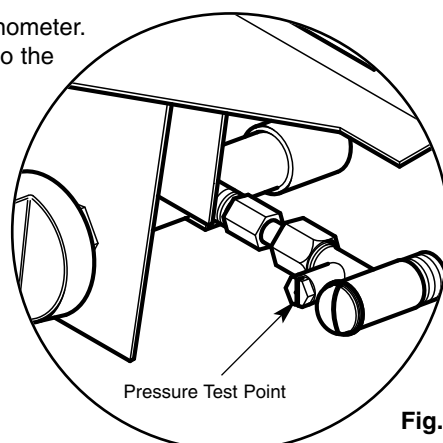

Fig. 8
1. Unscrew the pressure test point sealing screw (Fig. 8) and fit a manometer. Consult the user instructions (page 11). Ignite the appliance and turn to the high position.